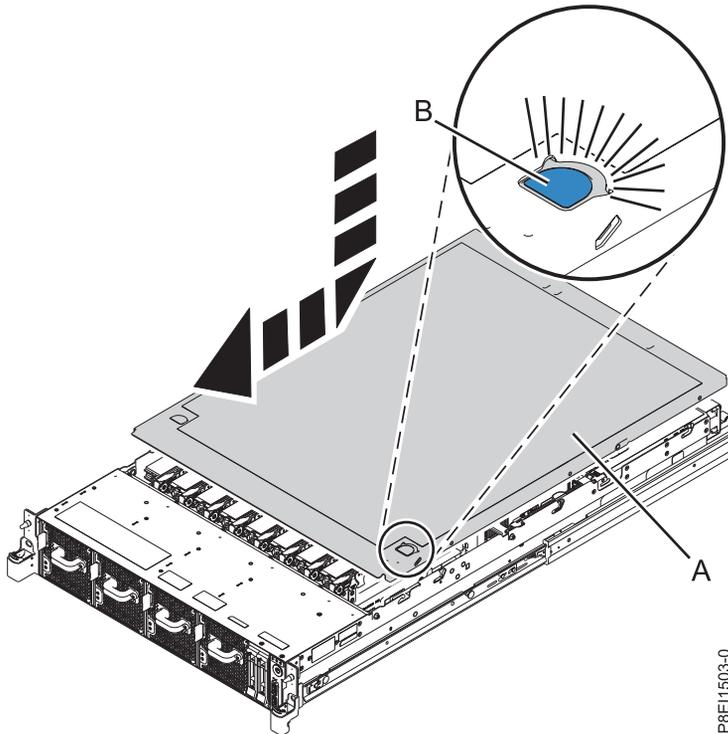

Figure 61. Installing the service access cover
1. Place the cover (A) on to the system unit such that the alignment pins on the cover are aligned to the slots on the chassis.
2. Press down to engage the pins and slide the cover to the front of the system until the blue release latch **(B)** locks in to place, as shown in Figure 61.